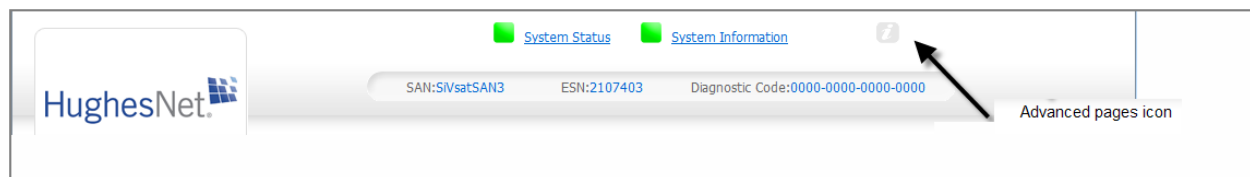
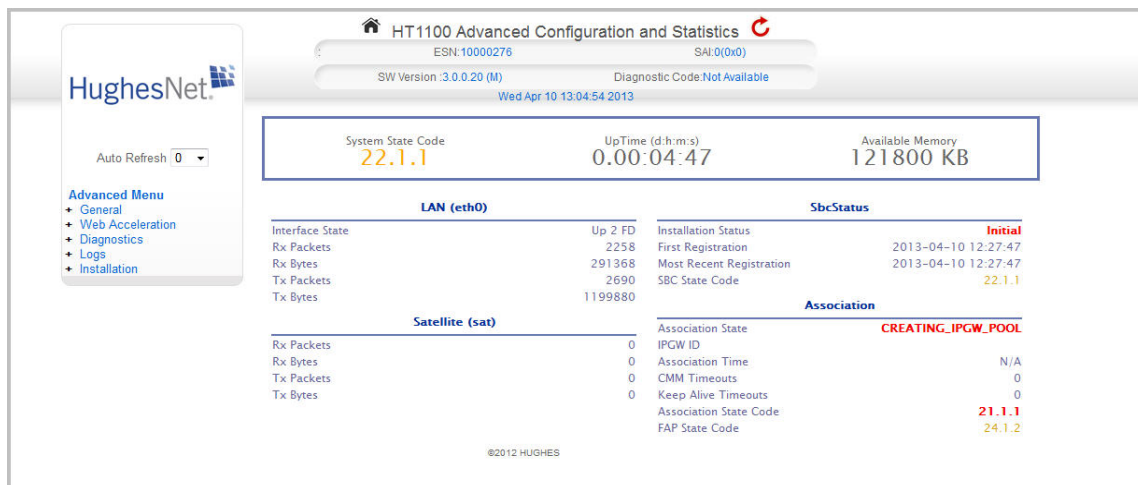

Figure 12: Advanced pages icon
Figure 13: Advanced Configuration and Statistics page
3. Click the Advanced Pages icon at the top of the page as shown in Figure 12. The Advanced Configuration and Statistics page appears as shown in Figure 13.